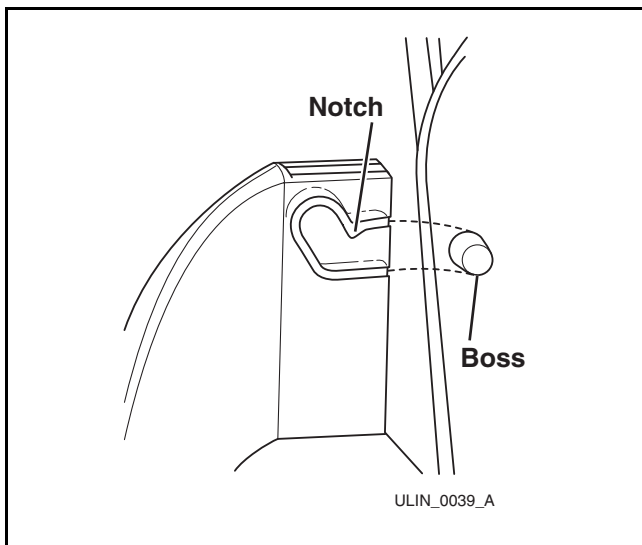

Figure 39
- Carefully pull shelf off bosses (**Figure 39**).
- Holding shelf in center, align notches in shelf with bosses in door (**Figure 39**).